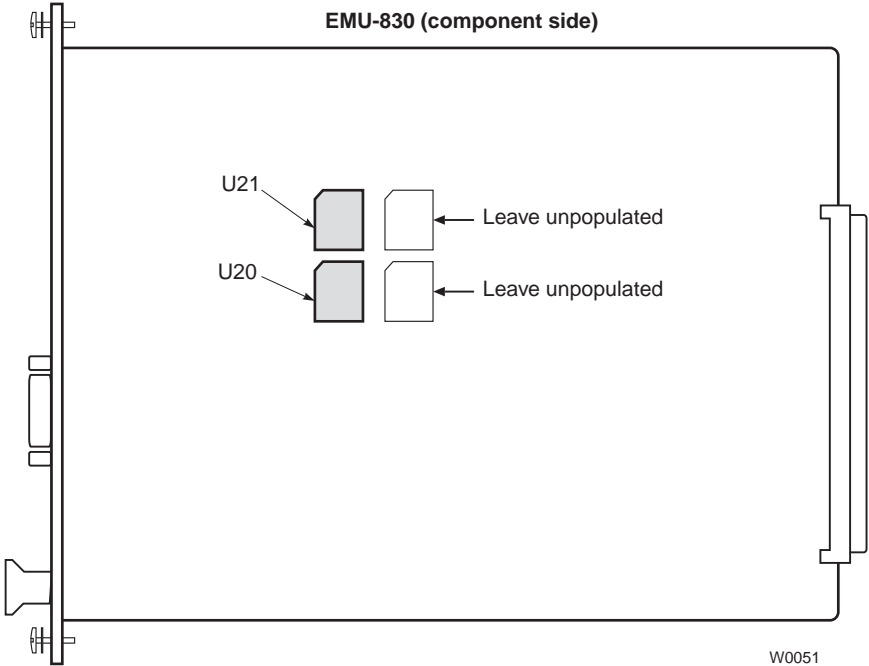

Figure 1. EMU-UPGV4.0 PROM Locations U20, U21
The EMU-UPGV4.0 firmware upgrade for the EMU-830 unit is contained in two replaceable PROM devices. These devices can be replaced in the field to support new features or implement bug fixes. The two PROM devices reside on the EMU-830 card at the locations shown in Figure 1.
- 2 Locate socket U21 on the EMU circuit board (see Figure 1 on page 2).
- 8 Locate socket U20 on the EMU circuit board (see Figure 1).